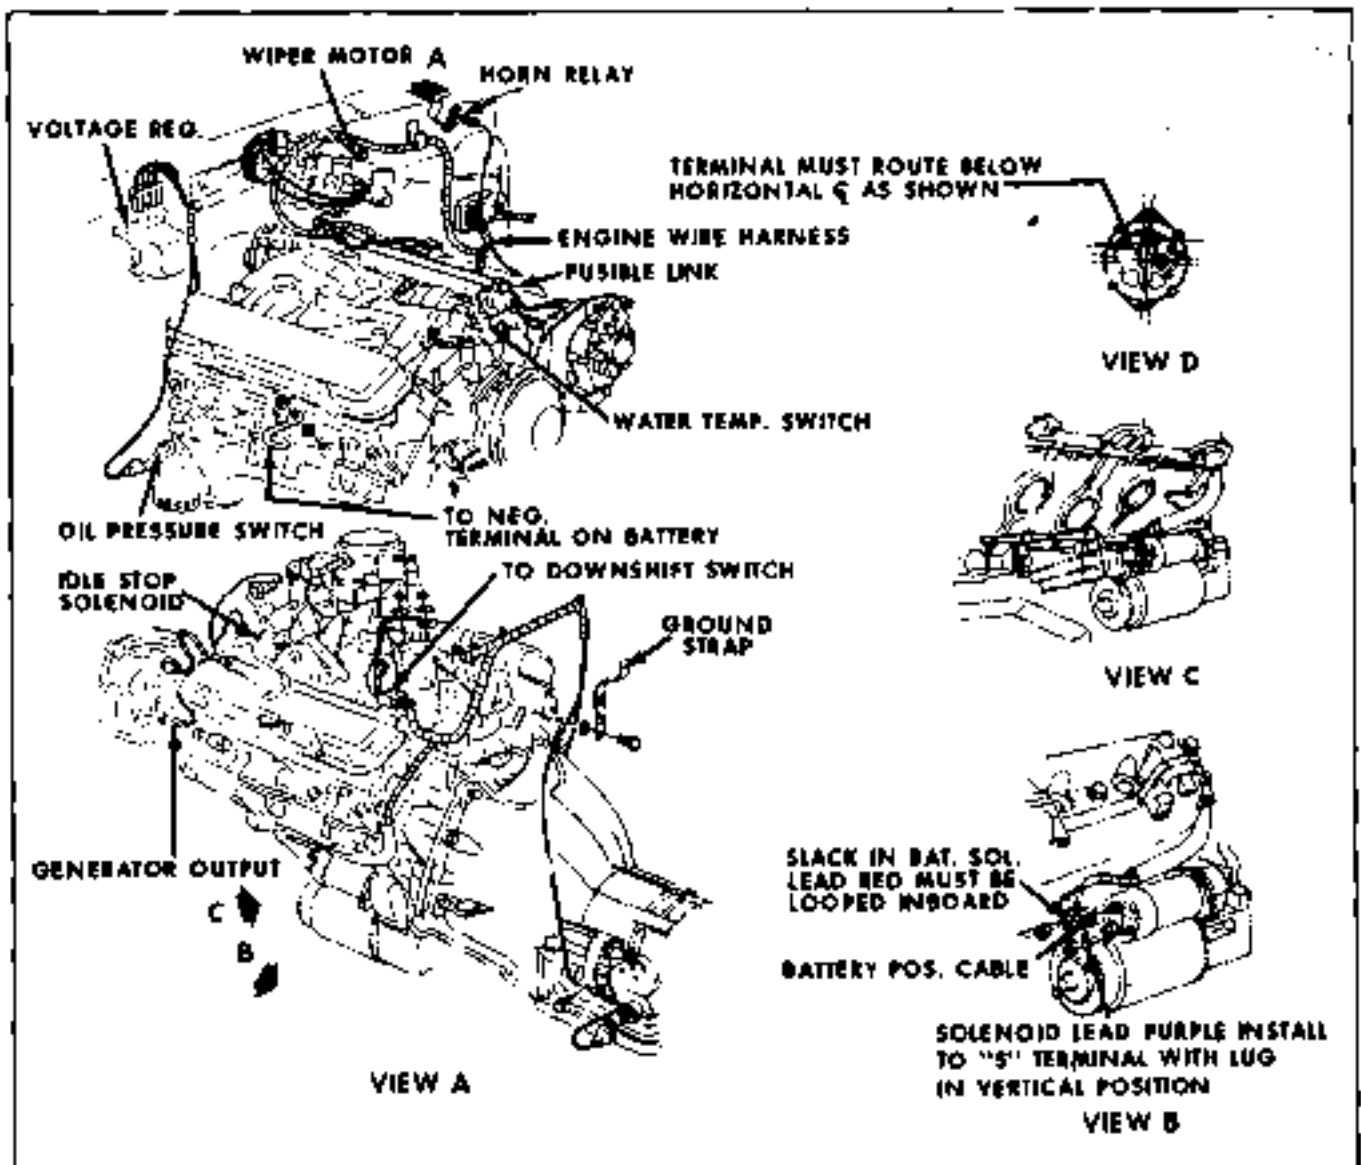
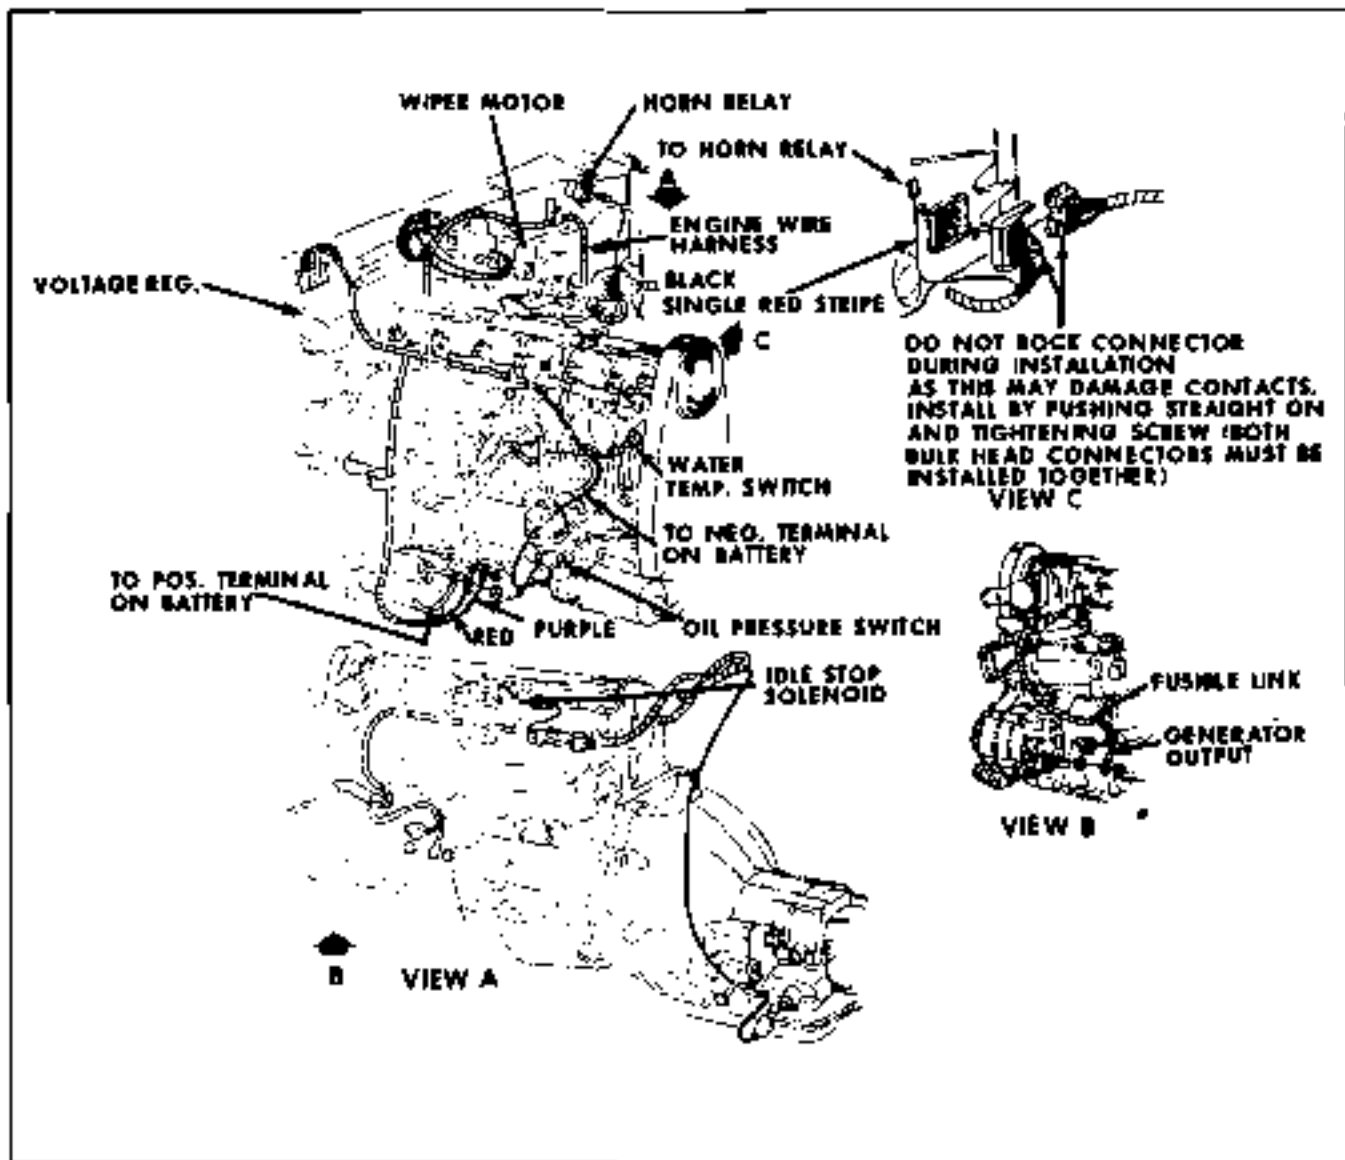

Fig. 12-21 Typical V8 Engine Harness Installation
Fig. 12-22 Typical 6-Cylinder Engine Harness Installation
2. Locate burned out link. Figs. 12-21 and 12-22 show location of fusible links.
Engine wire harness routing and connection may be determined from Fig. 12-21 for 8 cylinder applications and Fig. 12-22 for 6 cylinder.